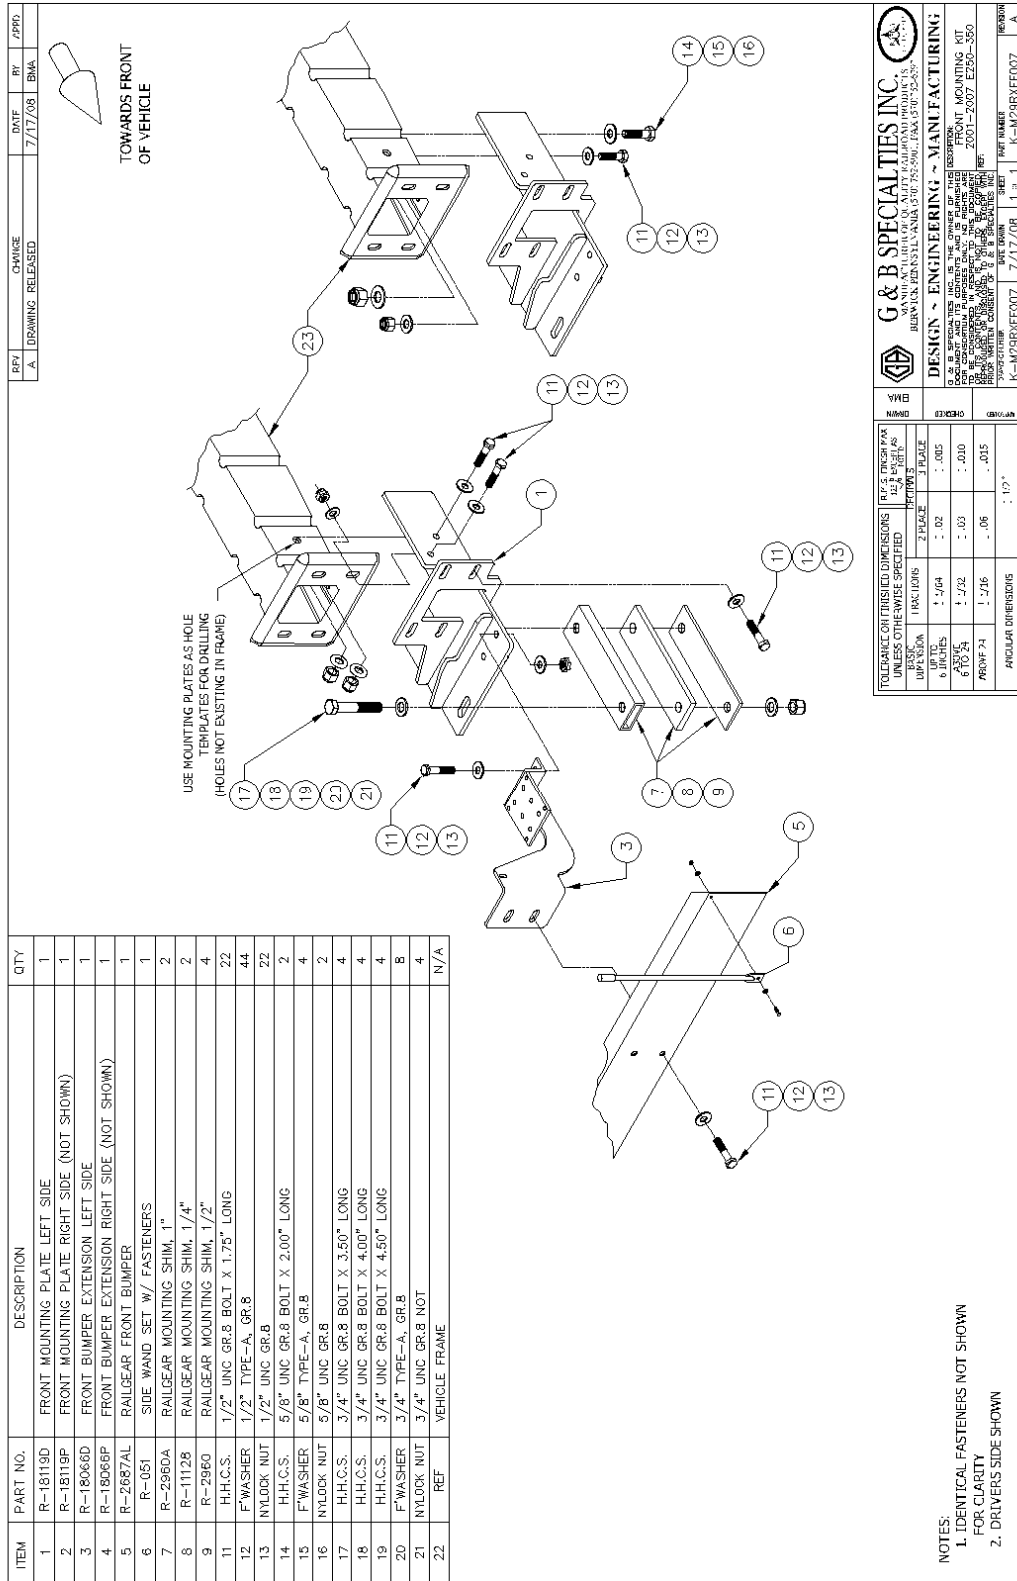

Figure 1
plates are tight against the front, underside, and outside of the frame as illustrated in figure 1.
5. With the front mounting plates secured, use a 17/32" drill bit to drill the four holes on the outside of the frame (Figure 1) using the existing holes in the mounting plates as a template.